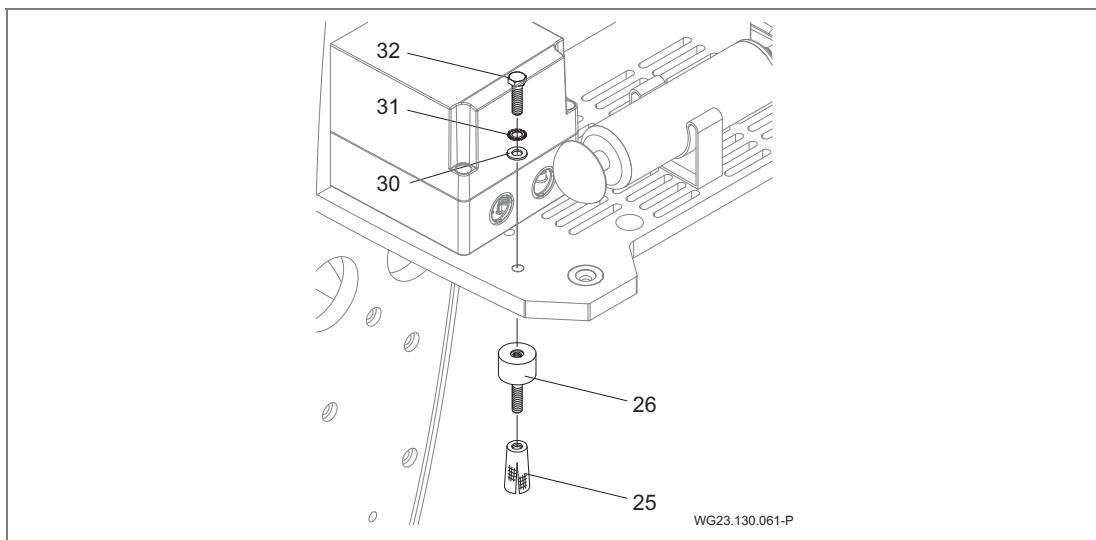
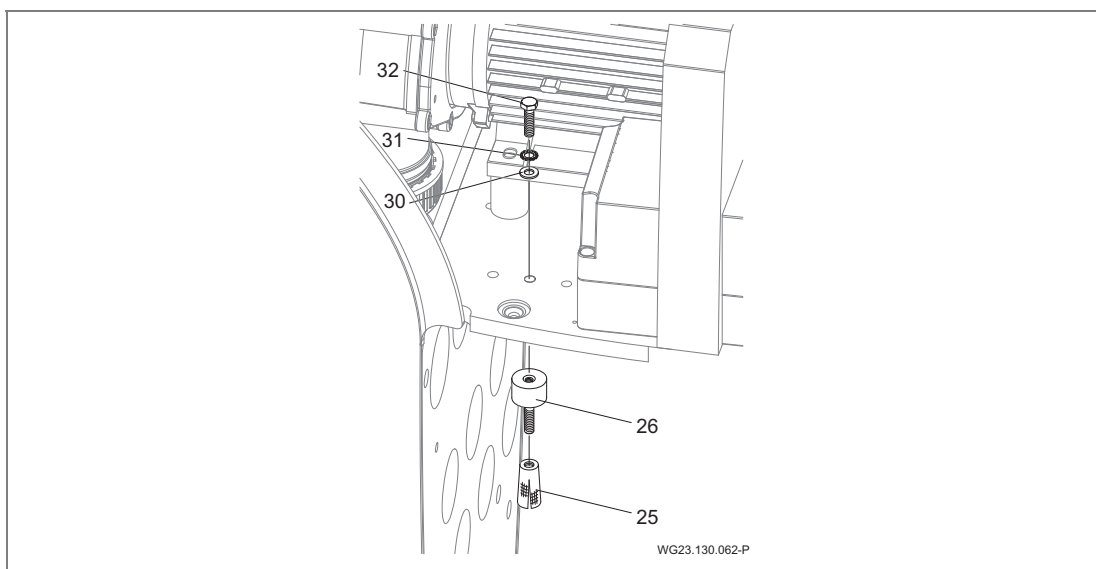

Fig. 6
Fig. 7
- Insert brass dowels (25) and screw on the metal vibration buffers (26). See "Fig. 6" and "Fig. 7" on page 21.
- Set the unit on the metal vibration buffers and secure it with hexagonal bolts (32), toothed locked washers (31) and flat washers (30). See "Fig. 6".
"Fig. 7" on page 21